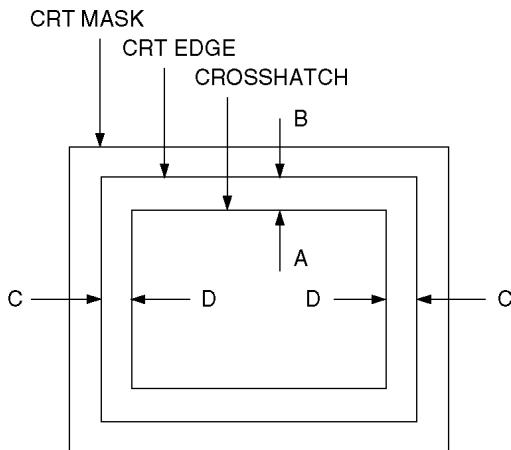

Fig. 10.
1. Adjust V-AMP (VGA 400) so that A=B in the Fig. 10.